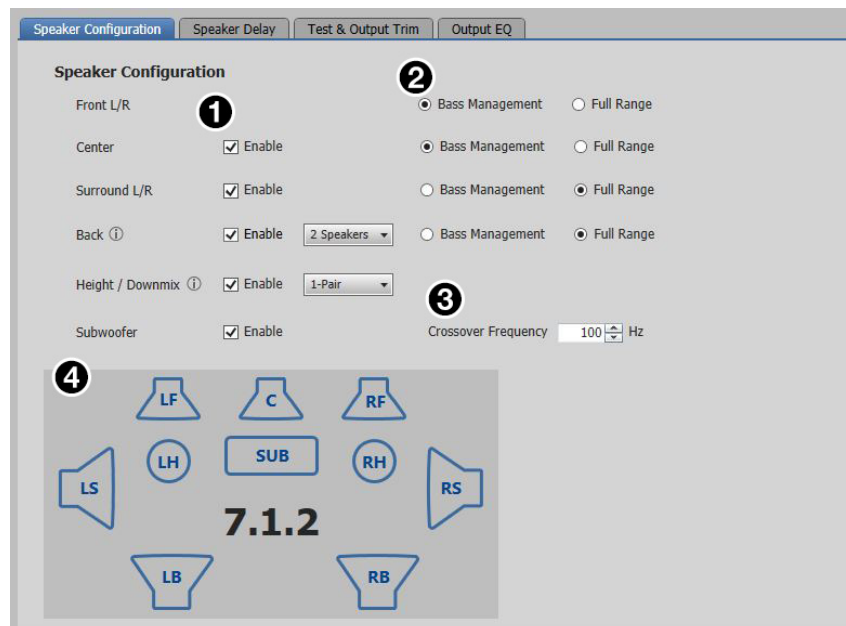

Figure 37. Speaker Configuration
Click the **Audio Config** button (see figure 26, 3, on page 31). The Audio Configuration window opens to the Speaker Configuration panel (see figure 37).
- 4 **Configuration Display** — This graphics box shows which speaker channels are active (see figure 37 on the previous page). Only the speakers enabled are displayed. If **Full Range** is selected for a particular channel then the speaker is represented by a large icon. If **Bass Management** is selected for a particular channel then the speaker is represented by a small icon.